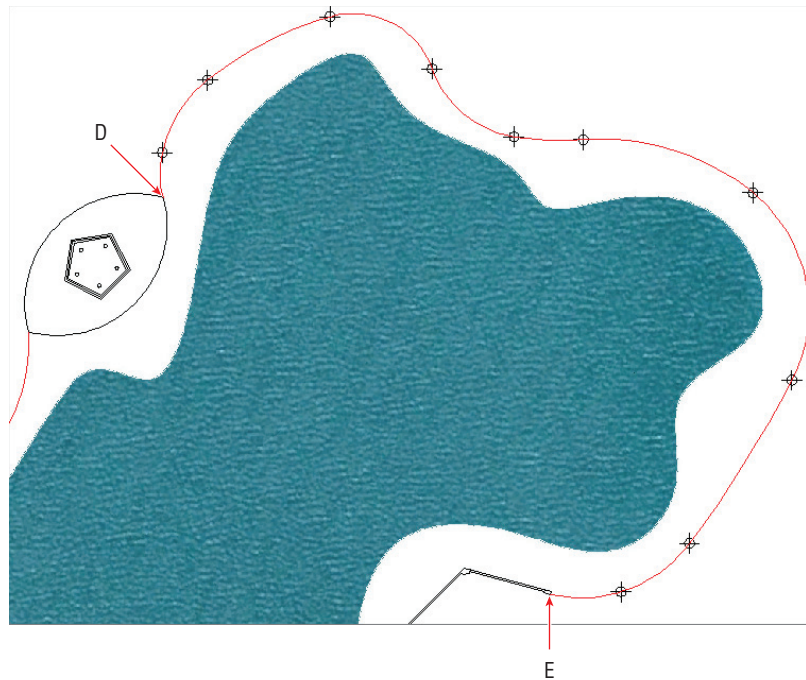

FIGURE 5.4 Drawing another polyline around the right half of the lake
7. Press the spacebar to repeat the last command. Click point D shown in Figure 5.4, type A (for Arc), and press Enter.
9. Click each subsequent node around the right side of the lake until you reach point E in Figure 5.4. Press Enter.